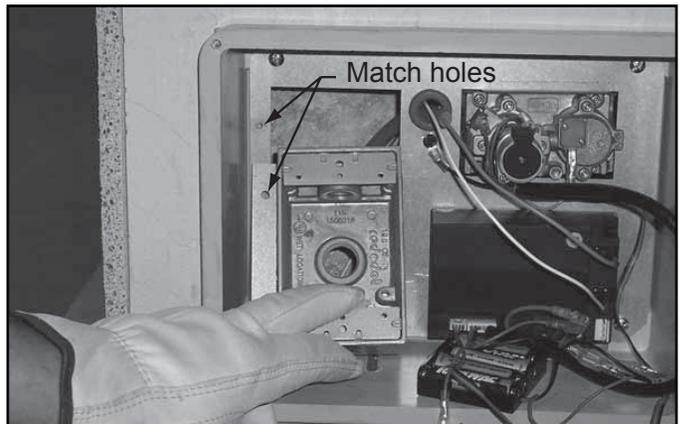

Figure 5.6 Place & Fasten Junction Box
- Place junction box into the control box, matching holes as shown, and fasten with the two screws removed in Figure 5.6.